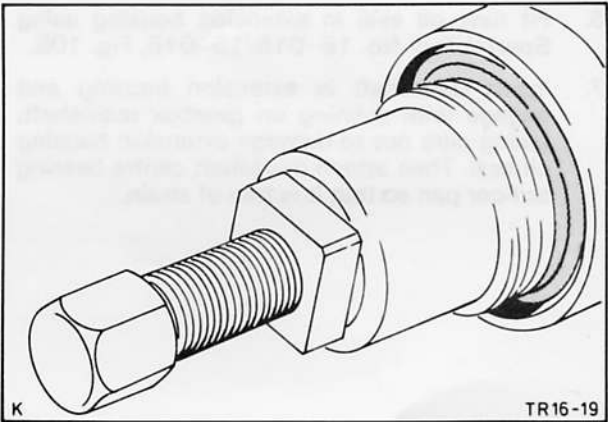

Fig. 105. Remove extension housing oil seal with Special Tool No. 17-001
3. With the centre spindle wound out, screw tool 17-001 into oil seal until firmly held, Fig. 105. Extract seal by screwing spindle in, holding tool firmly with an open-ended spanner.